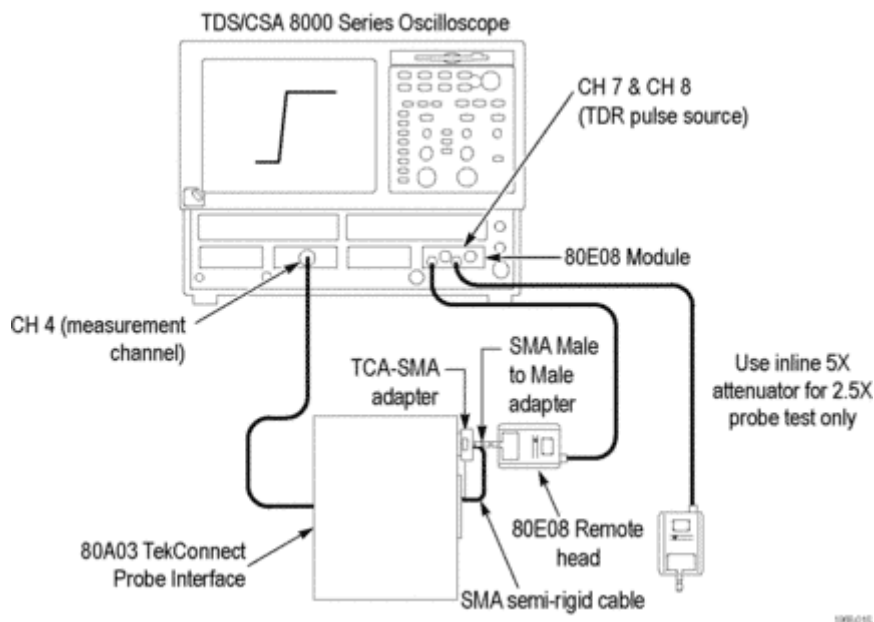

Figure 30: Test system rise time setup
1. Connect the test equipment as shown. (See Figure 30.)